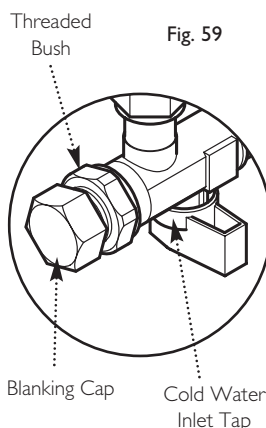

Fig. 59
19. Turn the tap off. Undo the blanking cap and remove the thread bush (Fig. 59).